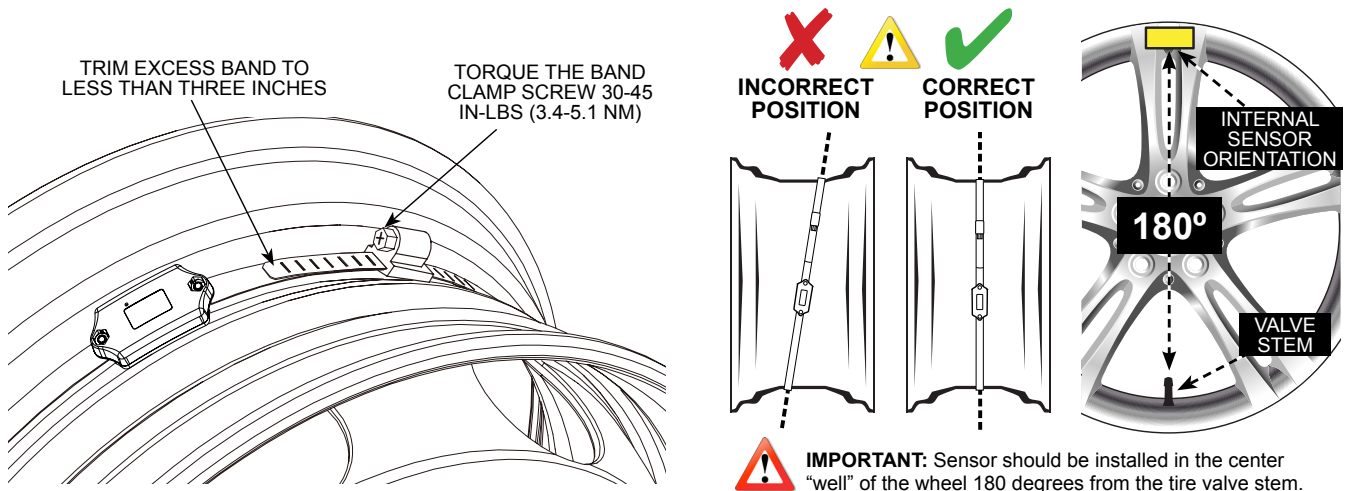

Figure 12: Internal Sensor Installation
5. Put the sensor and band clamp assembly in the center position of the wheel hub. See Figure 12.
6. Place the sensor 180° from the valve stem. See Figure 12.
7. Tighten the band clamp assembly on the wheel hub. See Figure 12.